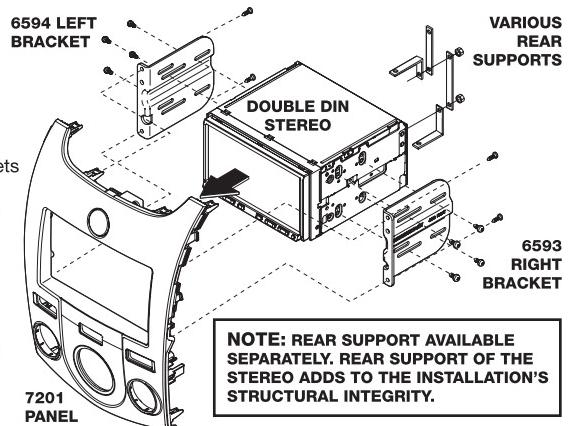

FIGURE 1
1. Snap factory hazard button into 7202 hazard bracket (Figure 1).